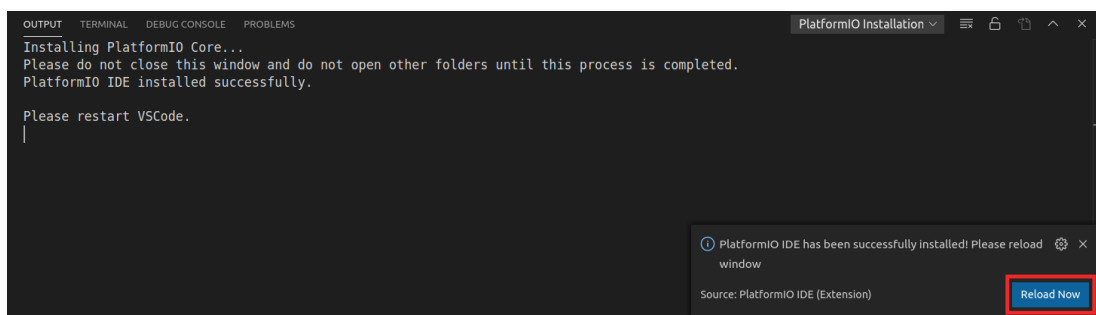

Figure 4. Reload Now after PlatformIO installs
- e. The OUTPUT window on the bottom will inform you about the installation process. Once finished, click "Reload Now" on the bottom right side window, and PlatformIO will finish installing inside VSCode (see Figure 4).